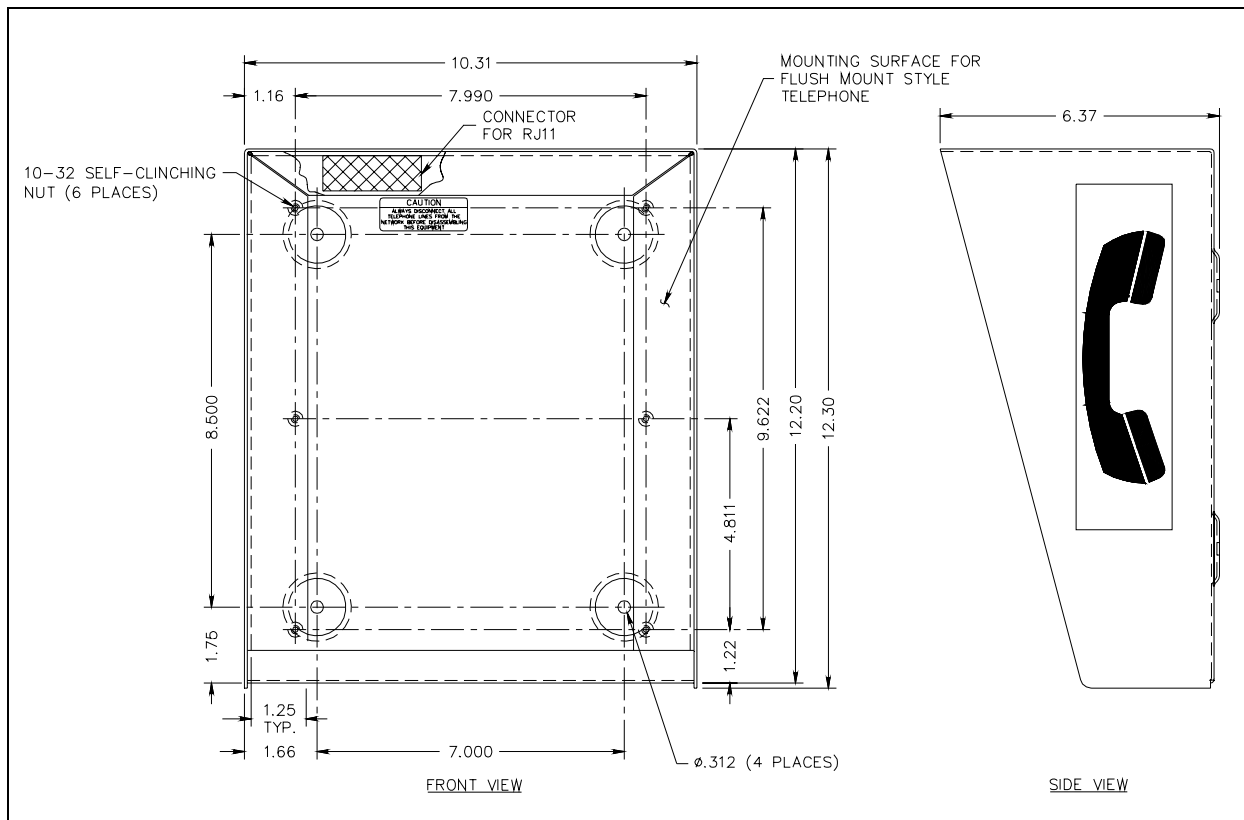

Figure 1. Model 236-001 Series Surface-Mount Enclosure Outline
1. Mount the enclosure on a flat wall surface using the four 5/16-inch (0.312) diameter mounting holes as shown in Figure 1. Mounting hardware is not provided.
4. Remove the backing from the other side of the adhesive pad, and affix the telephone jack to the top of enclosure, positioning the RJ11 connector toward the inside center of the enclosure. See Figure 1.
6. Secure the **CAUTION** label to the rear surface of the enclosure, in proximity of the telephone jack. Refer to Figure 1 for recommended location.
9. Secure a telephone handset symbol label to the right side and to the left side of the enclosure's exterior. See Figure 1.